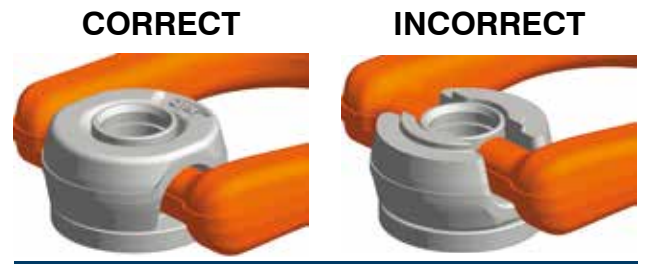

Fig. 6: Correct assembly of the sleeve
- C. Place the ring holder onto the sleeve so that the nubs of the ring fit neatly into the hollows of the ring holder. Make sure the sleeve is mounted correctly (see fig. 6).